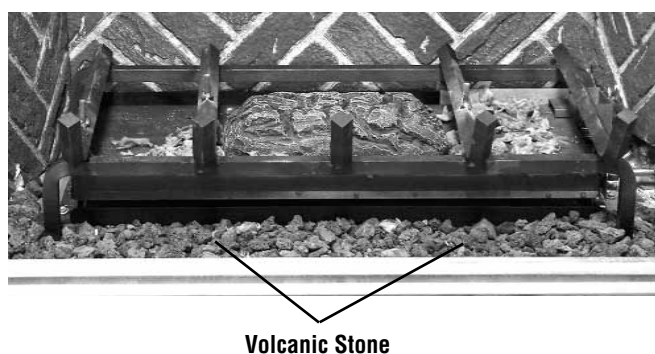

Figure 4 - Volcanic Stone Placement
- If logs are not installed according to the log installation instructions, flame impingement and improper combustion could occur and result in soot and/or excessive production of carbon monoxide (CO), a colorless, odorless, toxic gas.
2. Place volcanic stone around the burner, as shown in **Figure 4**.